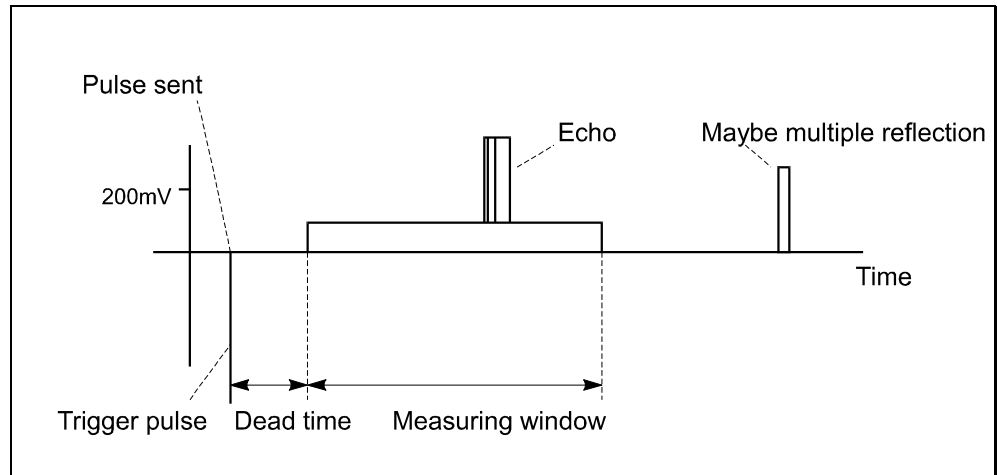

Figure 15: Echo detection in liquid level metering
- If no echo pulses can be seen as illustrated in Figure 15, increase the transmission energy (P 03) and/or the gain (P 04) until ultrasonic signals are received continually. Please note that the liquid may be turbulent, e. g., caused by a stirrer or from filling.